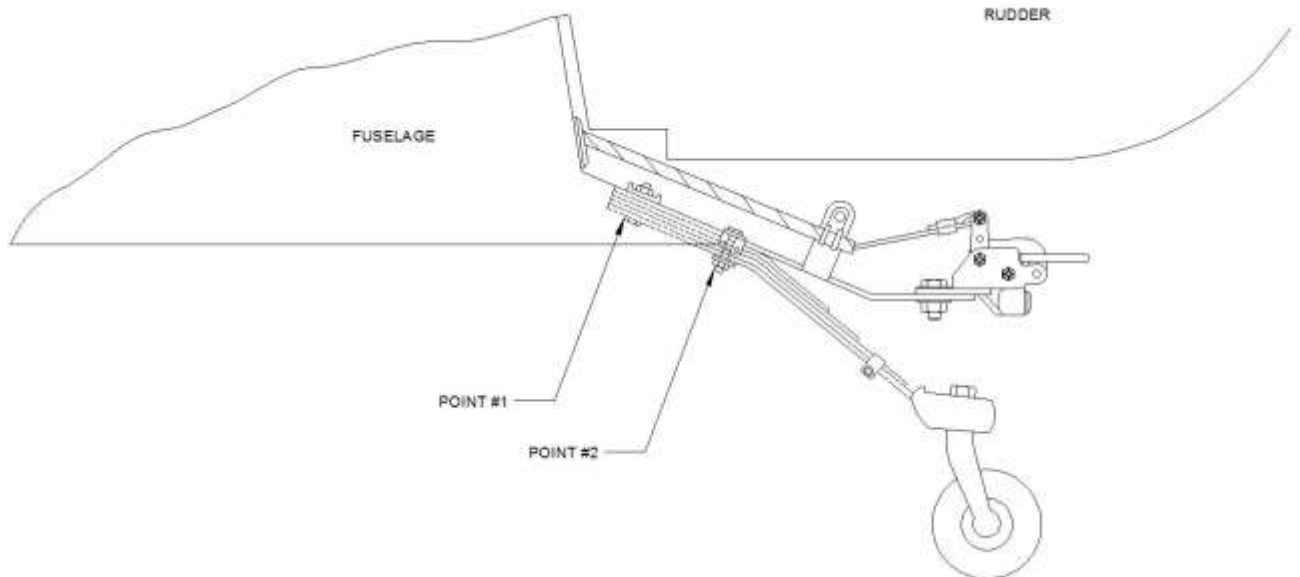

Figure 4.7: Tow Hook Installation on Cessna Models 170, 170A, and 170B.
- (3) Cessna Models 170, 170A, and 170B. Refer to Figure 4.7 for clarification.